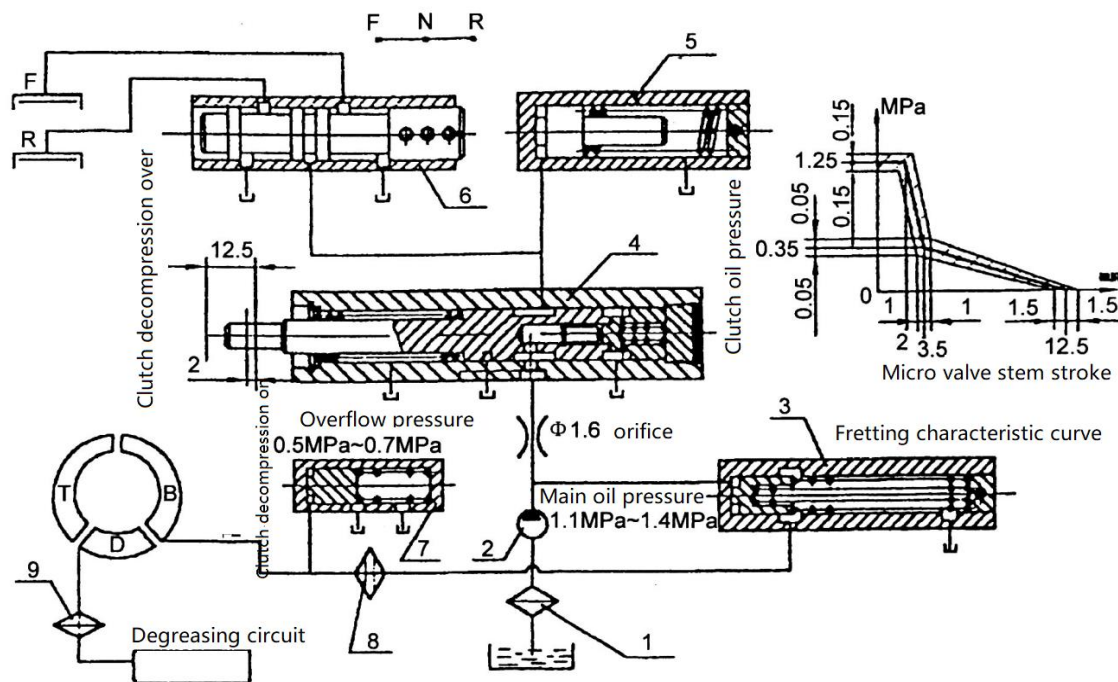

Figure 4-3 Oil circuit diagram of the hydraulic transmission box
3.2 Hydraulic oil circuit (see Figure 4-3) When the engine starts, the oil is drawn out from the oil tank (i.e. the bottom of the transmission shell) by the oil filter and flows through the control valve, where the pressure oil is divided into two parts: one part is for the hydraulic clutch; The other part supplies oil to the torque converter. The oil necessary for the operation of the hydraulic clutch flows into the main pressure valve (the pressure of this valve is adjusted to 1.1MPa ~ 1.4MPa) by the main pressure valve